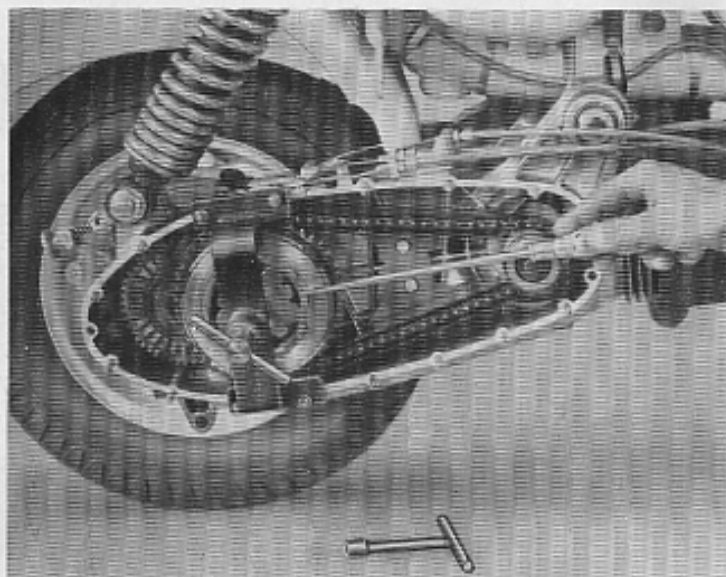
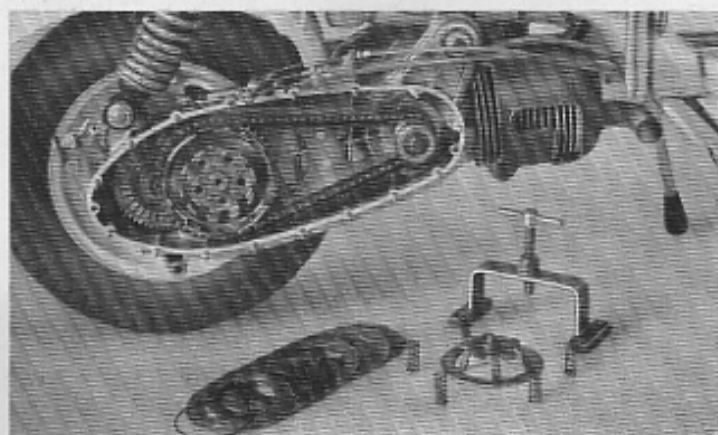

Fig. 5
Fig. 6
- 9 To dismantle clutch plates, fit clutch compressor tool No. 59351, remove circlip with the aid of a screwdriver (See Fig. 5), remove tool, withdraw the clutch discs & springs. (See Fig. 6).